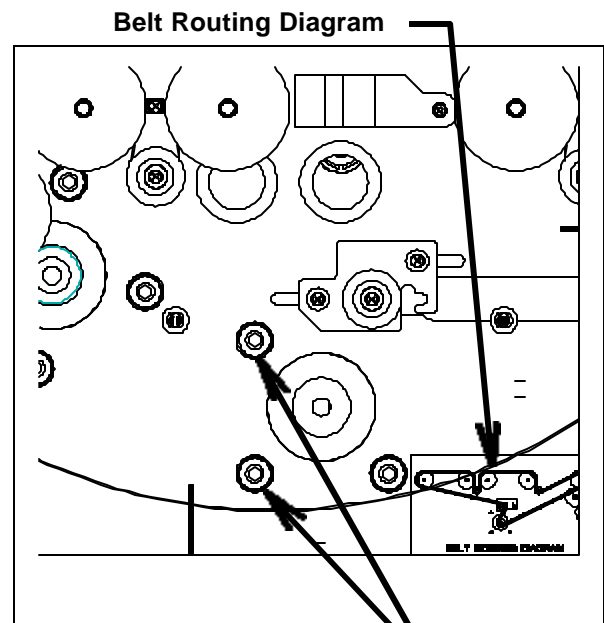

Figure 3
9. Remove the belt from the motor pulley. Remove (3) Motor Screws (Figure 3) and main motor.
10. Mount replacement main motor (wires exiting toward the front of printer) with (3) Motor Screws.